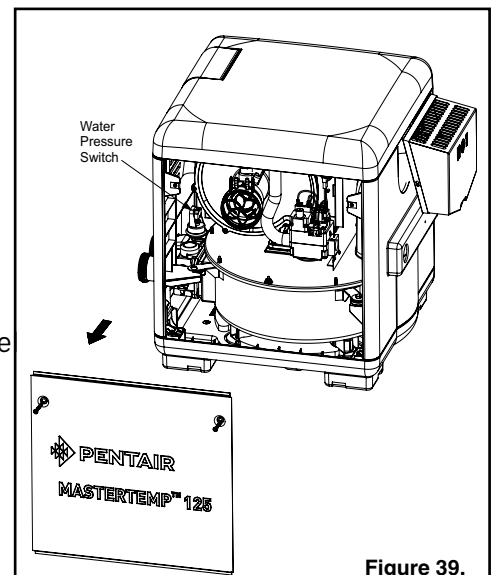

Figure 39.
5. Remove the access door panels by unfastening the two (2) screws located on each door, then lift up and out from the bottom of the panel to remove. If necessary, the screws may be used as handles, see Figure 39.
6. Toggle-Style Valve: Pull toggle toward you to turn gas off, see Figure 39.
7. **Wait five (5) minutes to clear out any gas. If you then smell gas, STOP! Follow "B" in the "Before Start-up" instructions (page 42). If you don't smell gas, go to the next step.**
3. Remove the access door panels, see Figure 39.